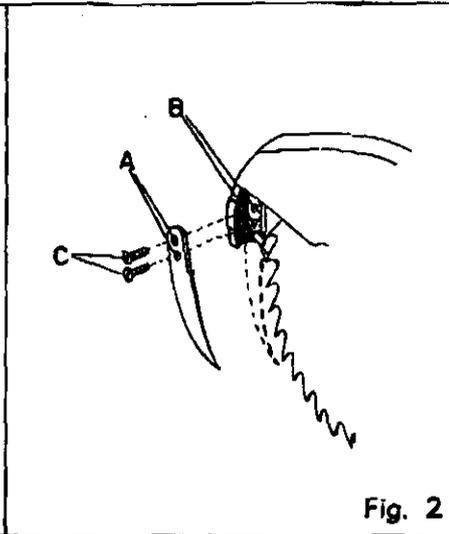

Fig. 2
TO ASSEMBLE RIVING KNIFE: IMPORTANT—BE SURE POWER CORD IS DISCONNECTED FROM POWER SUPPLY. (See Fig. 2) The Riving Knife keeps wood apart to guard against blade binding or jamming. The effectiveness of the riving knife depends upon the amount of effort used in assembling and arriving at a proper setting. The saw blade should be in place before assembling riving knife as this is the determining factor for proper setting. Position holes in knife (A) over holes in upper blade guard (B) and insert screws (C) through holes in riving knife and into threaded holes in upper blade guard. Assure at least 1/16 inch clearance between tip of blade tooth and inside edge at tip of knife and tighten screws securely.